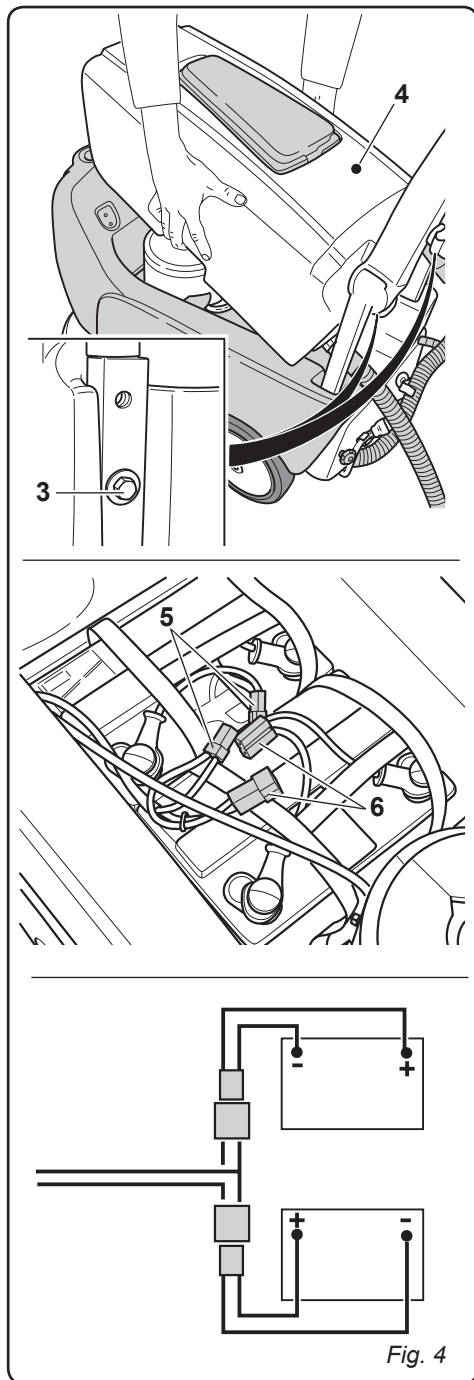

Fig. 4
3.1.b - Connecting the batteries (Fig. 4)
- Unscrew the bolts (3) that fasten the tank (4) to the handle support.
- Remove the recovery water tank (4) and connect the battery connectors (5) and (6).
- Replace the recovery water tank (4).